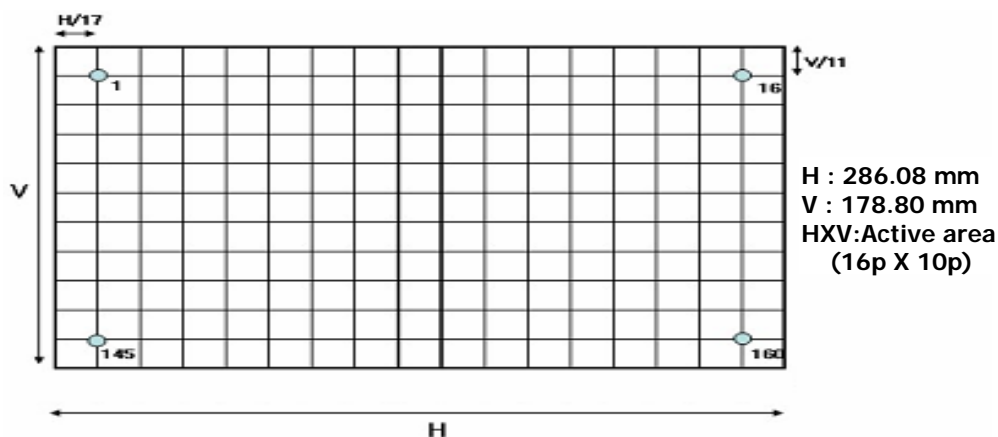

FIG. 3 Response Time
2. Response time is the time required for the display to transition from white to black (rise time, Tr_R) and from black to white(Decay Time, Tr_D). For additional information see FIG 3.